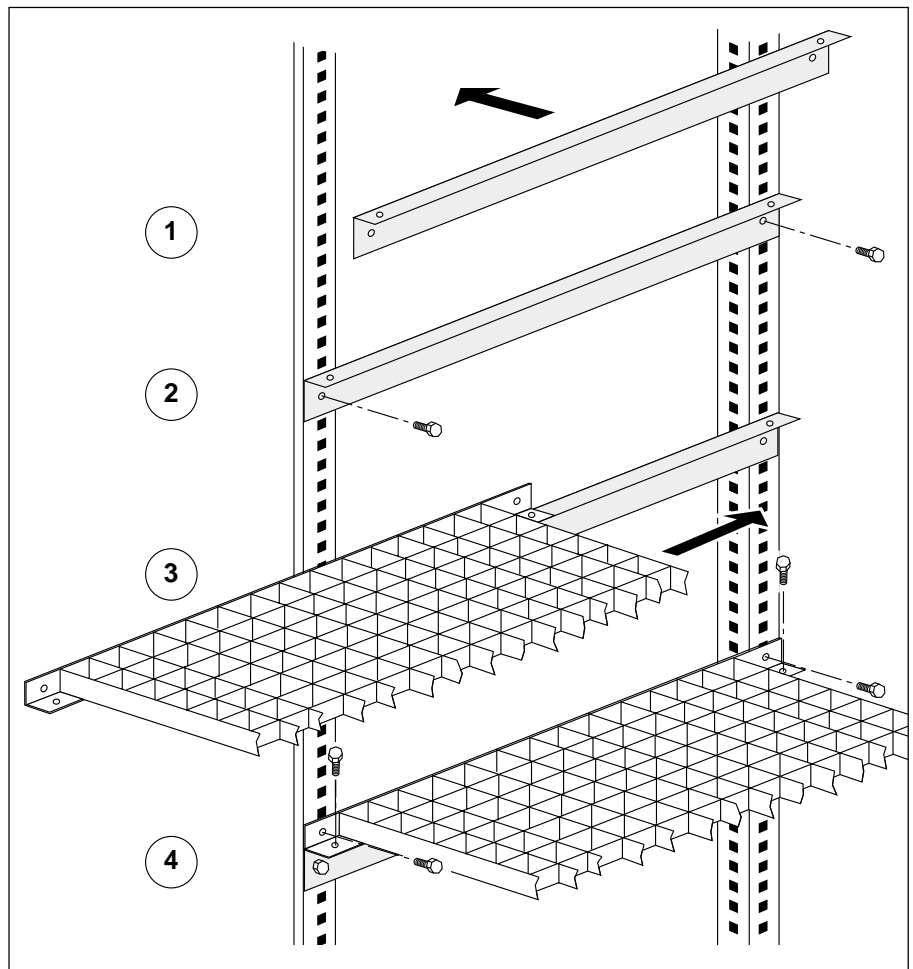

Fig. 5
- ▶ bolt the shelf support cross-members at the required heights (in accordance with the battery cell dimensions) to the structure uprights (see Fig. 5);